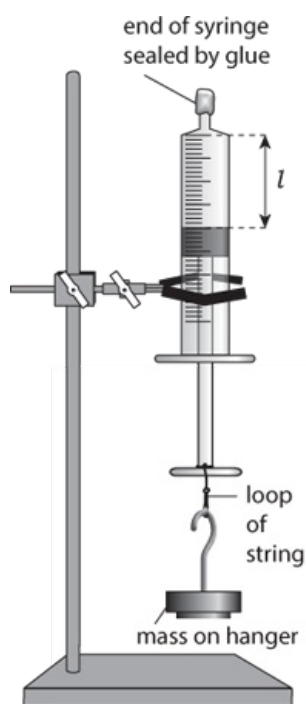

Figure 12.2: Mass attached to plunger of syringe.
- 1 Connect the apparatus securely as shown in Figure 12.2. Remove the mass hanger from the loop of string and check that there is about 6 ml of air in the syringe. Gently move the plunger up and down a few mm to ensure it does not stick.